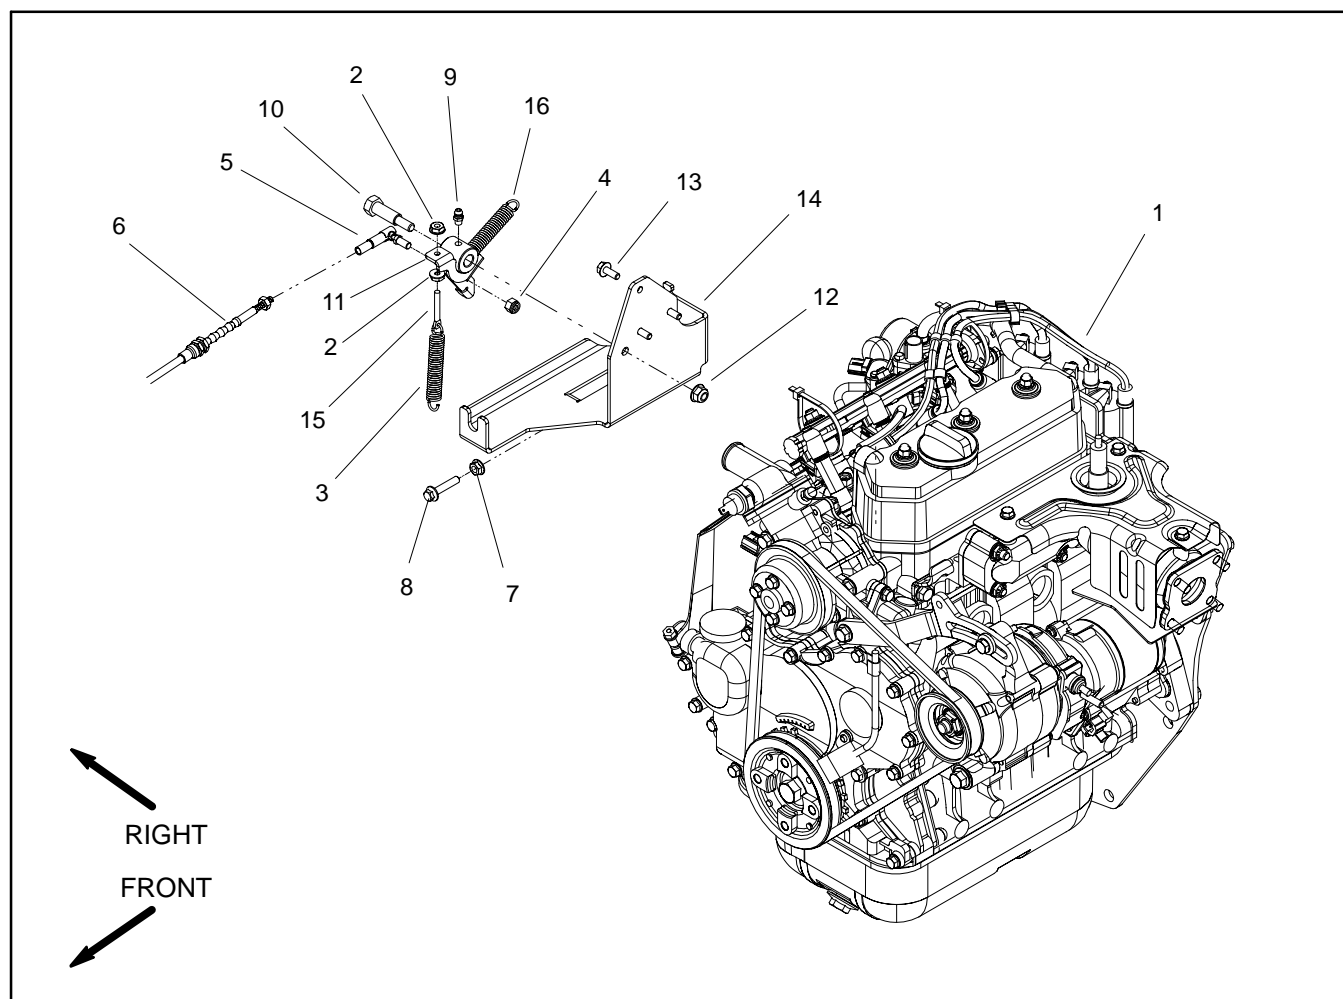

Figure 19
Disassembly (Fig. 19)
1. Remove throttle bracket components from engine as needed using Figures 19 and 20 as guides.
Assembly (Fig. 19)
1. Install removed throttle bracket components to engine using Figures 19 and 20 as guides.